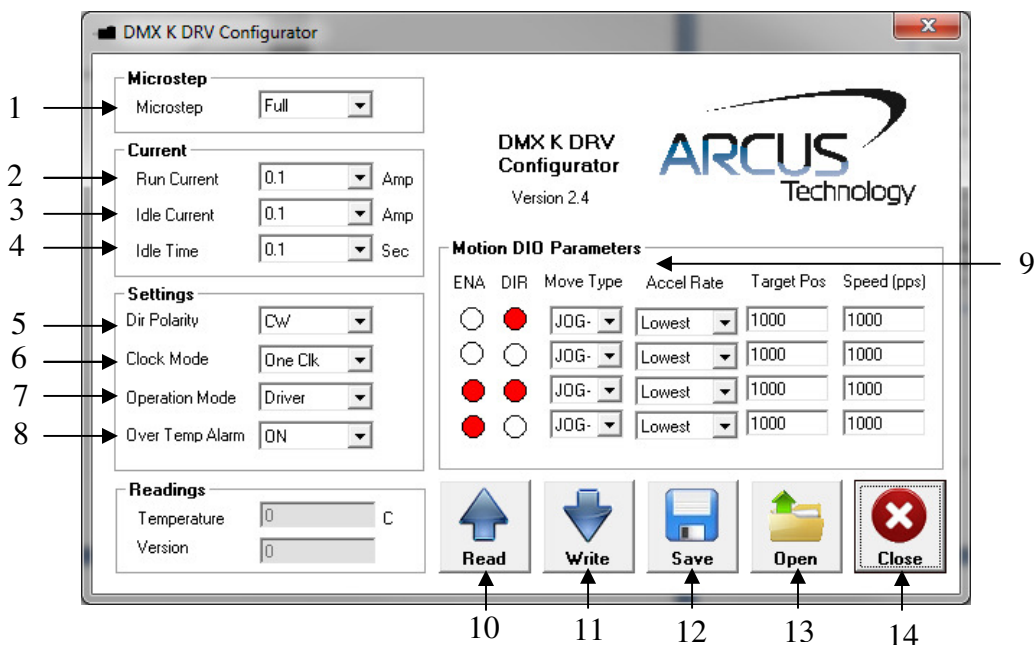

Figure 7.0
See the DMX-CFG-USB Cables manual for details on configuration. Figure 7.0 shows the configuration interface.
8. **Over Temperature Shutdown** - Determines whether or not the DMX-K-DRV-11 disables when the temperature rises above a specified threshold. See Figure 7.0 for details.